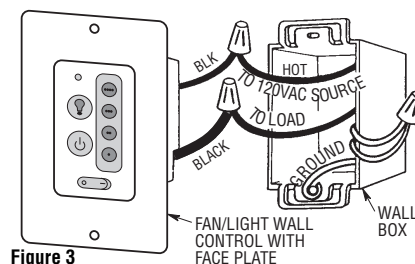

Figure 3
4. Connect one black wire of wall control to the "hot" wire. Securely connect wires with wire connectors supplied (Figure 3).